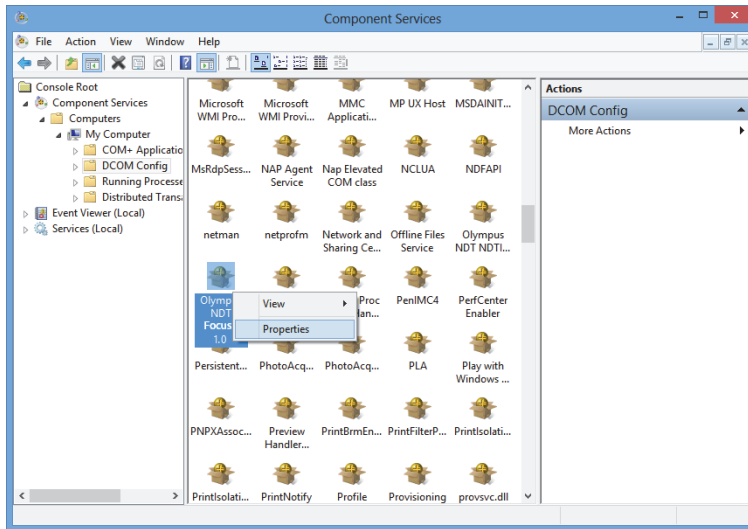

Figure 2-20 The Component Services window
19. In the **Component Services** window (see Figure 2-20 on page 45), access the FocusPC properties: